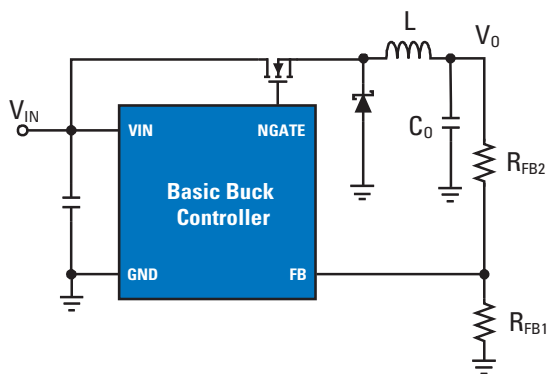

Figure 4A: Basic Step-Down (Buck) Voltage Regulator Figure
Switching regulators are most commonly known as voltage regulators. **Figure 4A** illustrates a basic constant-voltage buck regulator. The buck controller maintains a constant output voltage as the line voltage changes by varying the operating duty cycle (D) or the switching frequency. The desired output voltage set point is programmed using the following equation: